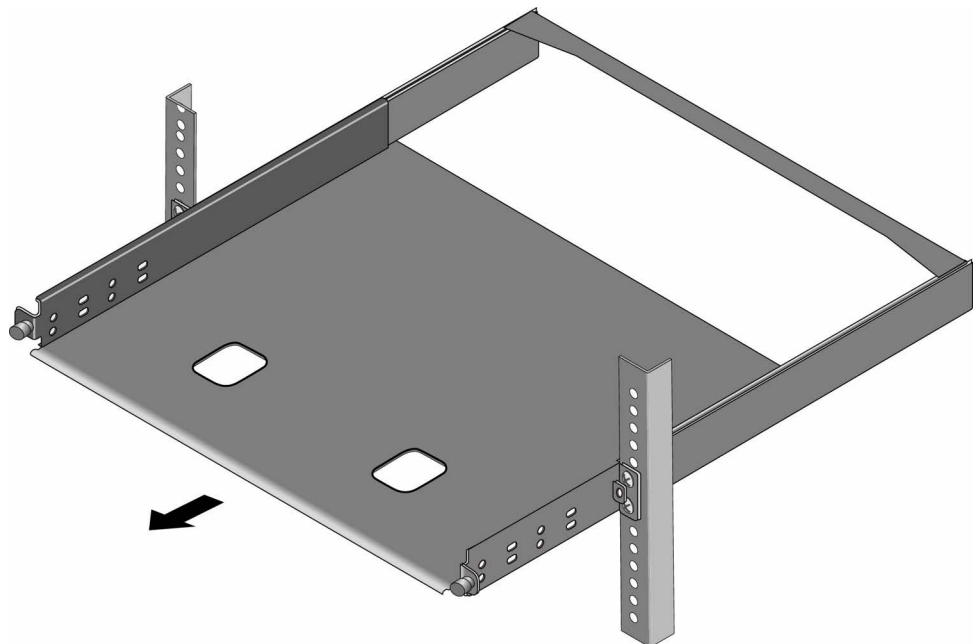

Figure 52. Sliding Out the Tray from the RKMT-J15 Rack-Mount
5. Slide out the tray as shown in Figure 52.